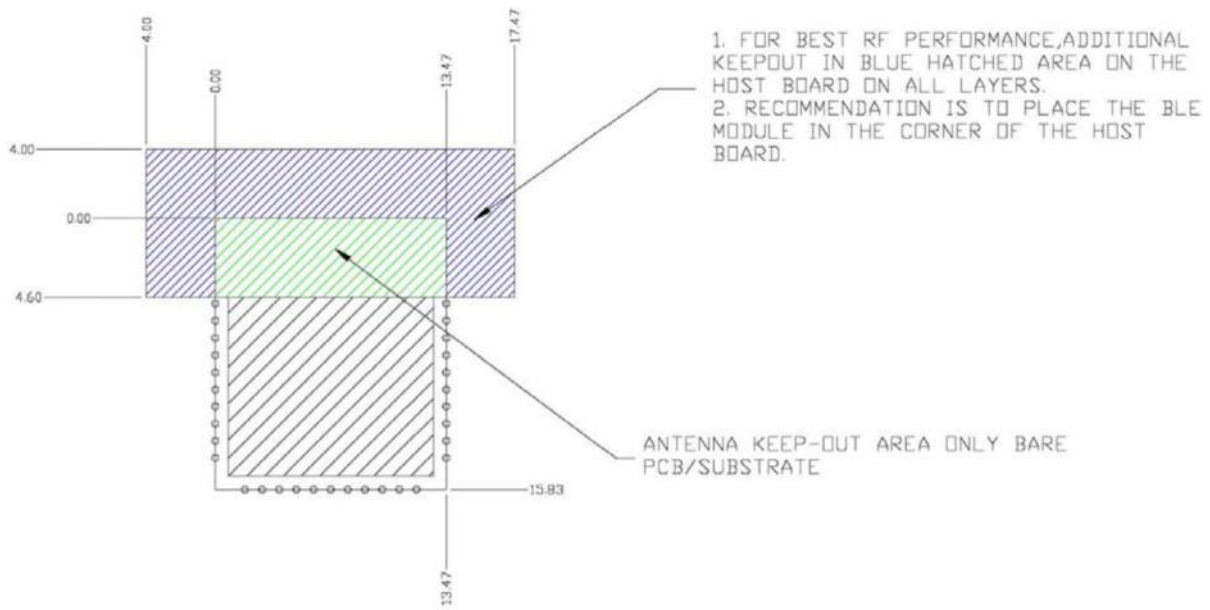

Figure 4 Optional additional host PCB keep out area around the CYW30739B2-P5TAI051 trace antenna
2. Module placement: The ideal placement of the Bluetooth® module is in a corner of the host board with the trace antenna located at the far corner. This placement minimizes the additional recommended keep out area stated in item 3 below. Refer to AN96841 for module placement best practices.
3. Optional keepout: To maximize RF performance, the area immediately around the Bluetooth® module trace antenna may contain an additional keep out area, where there are no grounding or signal traces. The keep out area applies to all layers of the host board. The recommended dimensions of the host PCB keep out area are shown in **Figure 4** (dimensions are in mm).